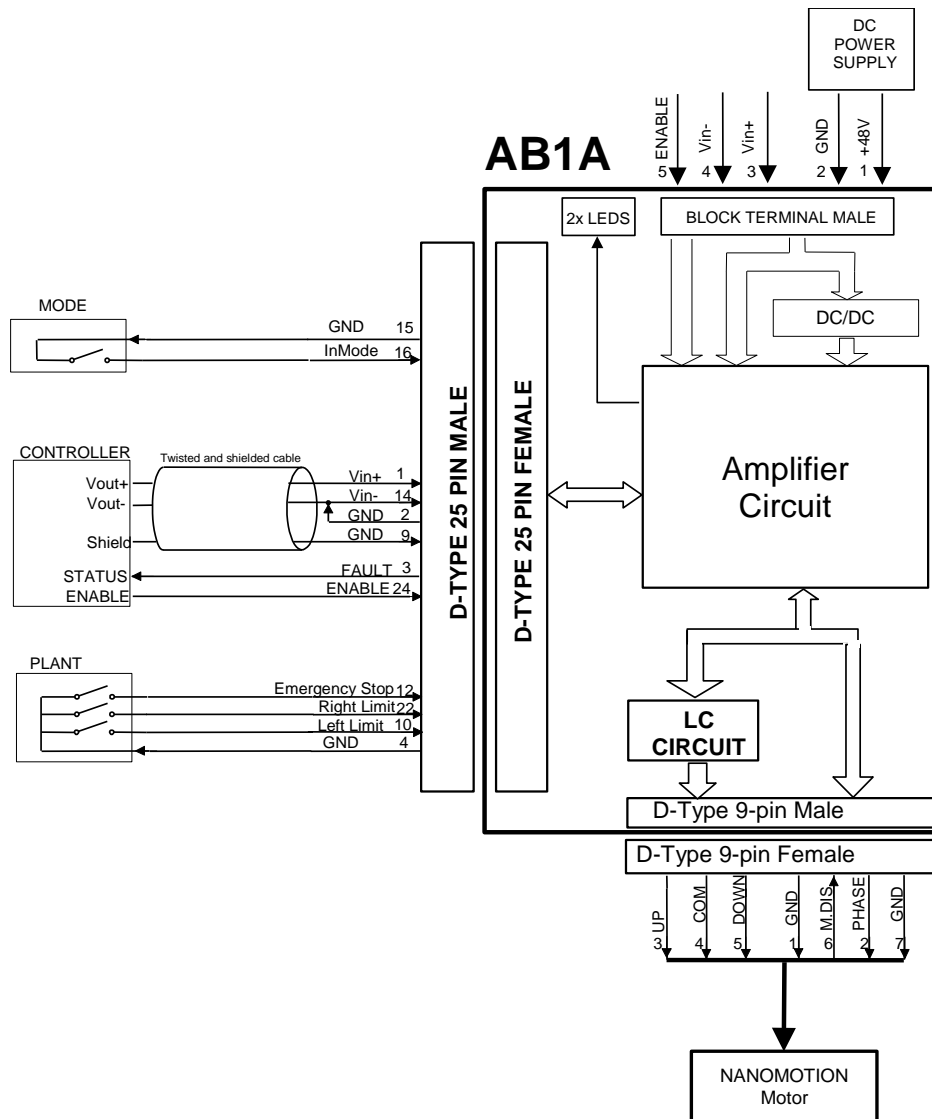

Figure 5: Non-Differential (single-ended) Analog Input Connection.
- Single-Ended Connection (see Figure 5)